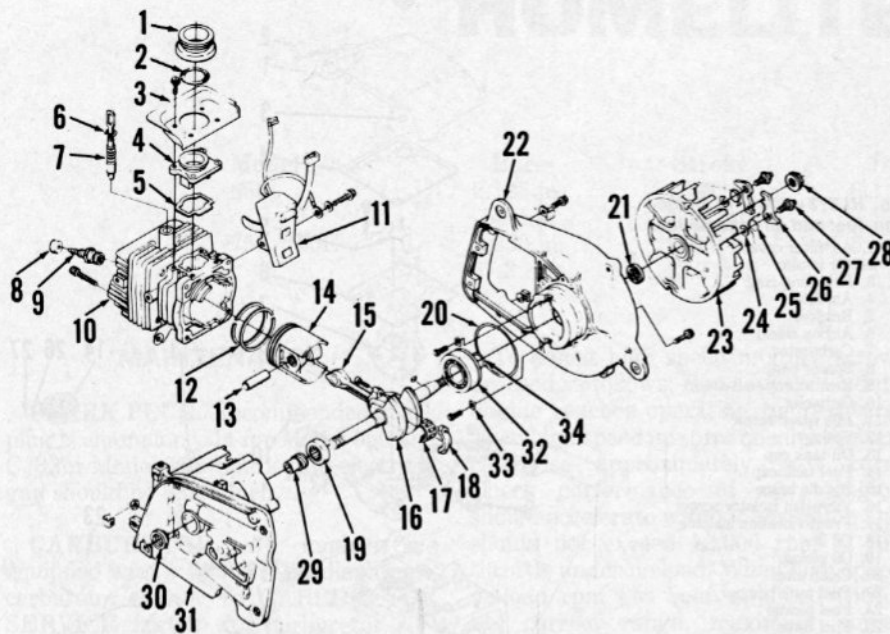
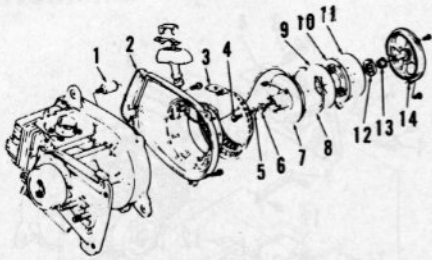

Fig. HL274—Exploded view of Model 750 and 750E engine. Model 650 is similar except second roller bearing (19) is used in place of components (32, 33 and 34).
Fig. HL281—Exploded view of starter.
CRANKSHAFT, CRANKCASE AND SEALS. Crankshaft on 750 and 750E models is supported by roller bearing (19—Fig. HL274) and ball bearing (32).
AUTOMATIC CHAIN OIL PUMP. All models are equipped with an automatic oil pump driven by worm (29—Fig. HL274) on crankshaft. Oil is pumped by
RECOIL STARTER. Refer to Fig. HL281 for an exploded view of starter assembly. Starter pawl components attached to flywheel are shown in Fig. HL274.
To disassemble starter, hold cover (14—Fig. HL281) and unscrew retaining screws. Allow cover to turn until spring tension is relieved and remove cover. Note: If outer hook of spring catches on starter housing, pull cover away from housing until cover is allowed to turn. Unscrew screw (4) to separate rope pulley (7) from cover. Remove snap ring (8) for access to rewind spring. If starter pawl assemblies must be removed, unscrew housing screws and remove starter housing (2). Threaded inserts are
Clean and inspect components. Lubricate sides of rewind spring with a small amount of Homelite® ALL-TEMP Multi-Purpose grease or a lithium base grease. Do not oil spring. Install inner spring shield (11), rewind spring (10) and spring lock (12) in cover with spring wound as shown in Fig. HL282. Install outer spring shield (9—Fig. HL281) and snap ring (8). Insert bushings (6 and 13) in rope pulley (7) being sure knobs on bushings align with notches in pulley. Slide pulley onto post in cover and check to be sure splines on pulley engage splines in spring lock. Install and tighten capscrew (4) to 45 in.-lbs. Wind rope around pulley in clockwise direction as viewed from screw end of pulley. Set cover in housing. Pull rope handle and then allow rope to rewind so that starter pawls will be forced open and pulley hub can slide between them into place. Turn cover clockwise 2 or 3 turns to preload rewind spring, snap plastic screen into place and install cover screws. Check starter operation.